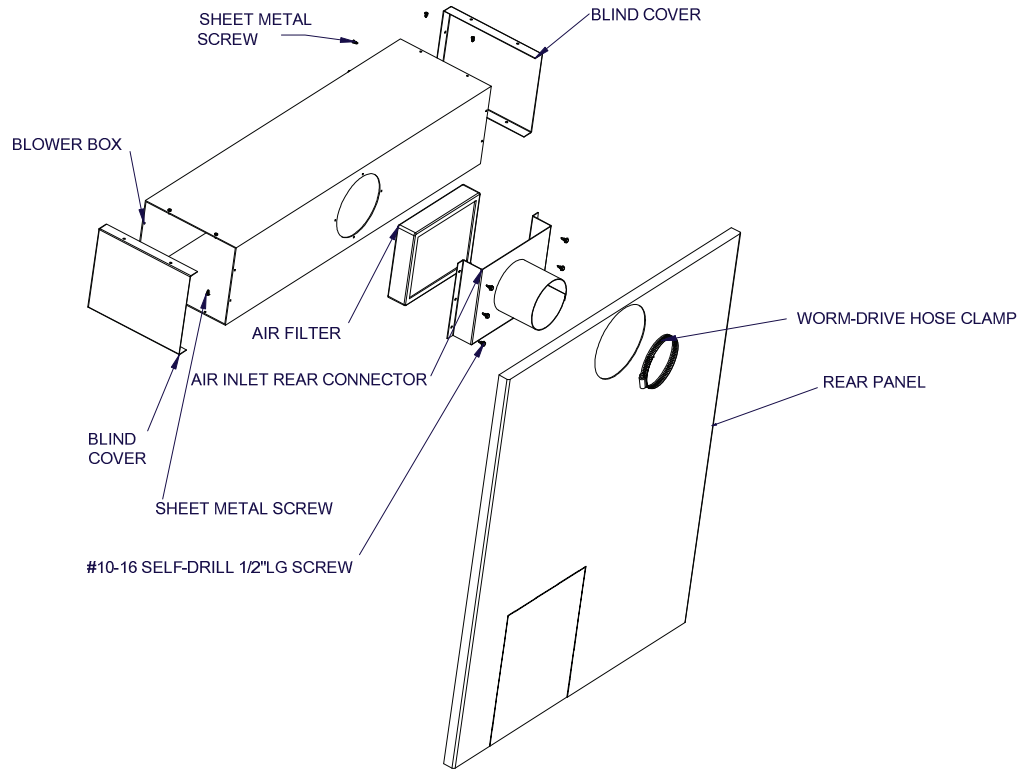

FIGURE 2
- The unused right side or left side air inlet connection must be covered with a blind cover (See Figures 2 and 3)